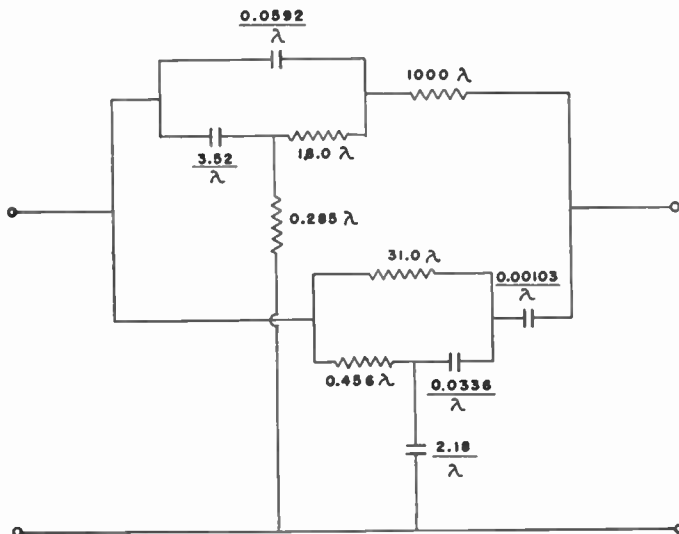

Fig. 2—Network realizing gain of 1.48.
Calculation shows the gain at $p=j$ to be 1.484 as compared to the theoretical maximum gain of $2^{(3-3)/2} + 1/2 = 1.5$. Better approximations to the maxima gain may be obtained by taking the γ 's still closer to 1. Realization of the transfer function (11) using the synthesis method given in [2] leads to the network shown in Fig. 2 with λ as before. The circuit in Fig. 2 consists of the parallel connection of two bridged-T networks
whose gain at $p=j$ is 2.326 (as compared to the theoretical maximum of $2^{(5-3)/2} + 1/2 = 2.5$). The synthesis of this function results in a network of 46 elements which is the parallel combination of two circuits, each of which is itself the parallel combination of two networks analogous to that of Fig. 2, each network being suitably terminated before connection. The same type of network, namely, the iterated parallel connection of networks realizing transfer functions of lower degree, will also result in the general case. Of course, the number of elements required in the realization will increase with increasing m .